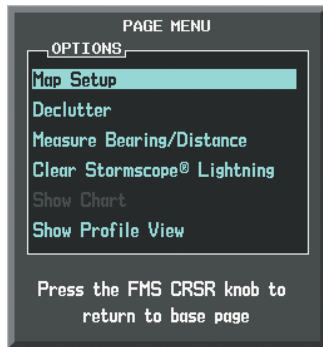

Figure 6-7 Navigation Map Page Menu
- 3) With Map Setup highlighted, press the **ENT** Key (Figure 6-7).